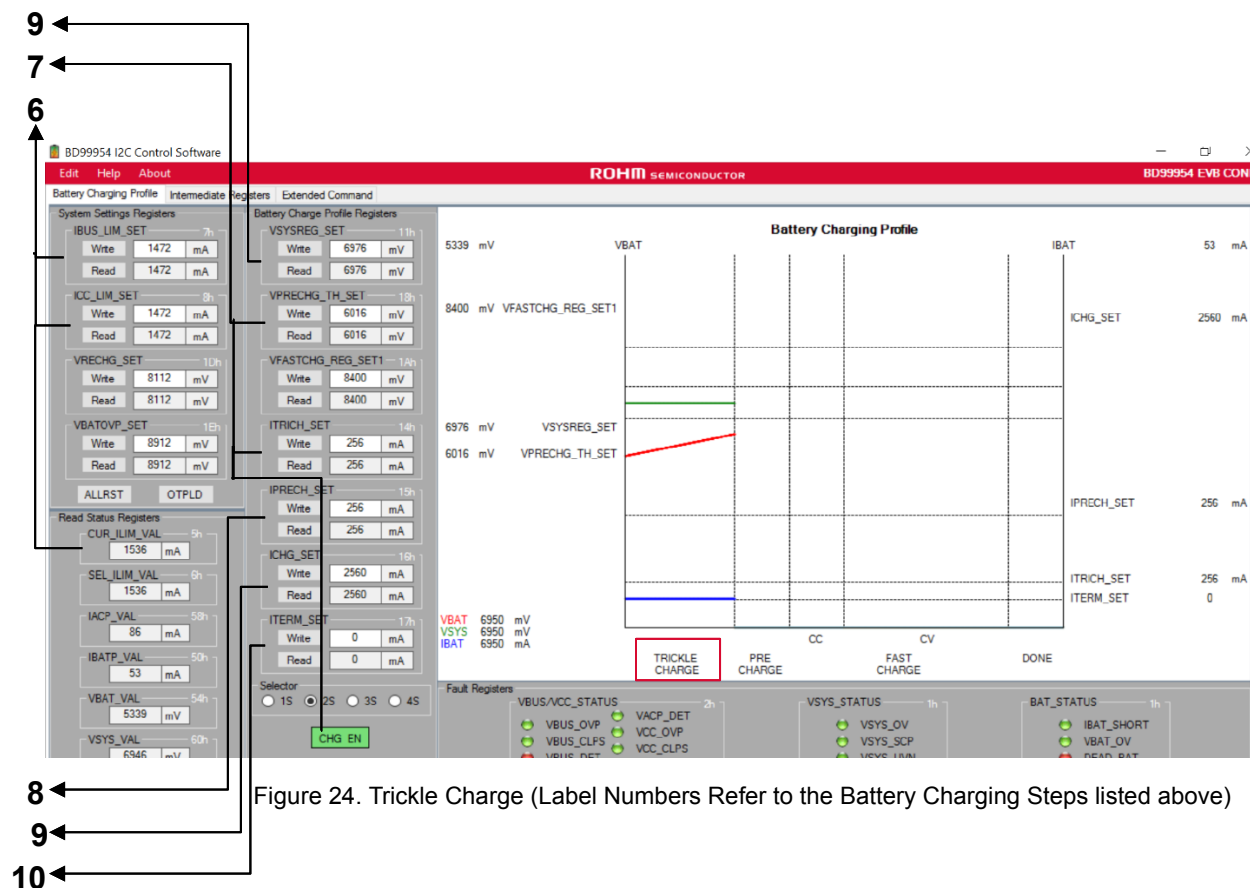

Figure 24. Trickle Charge (Label Numbers Refer to the Battery Charging Steps listed above)
be written to IBUS_LIM_SET(Reg 7h) or ICC_LIM_SET(Reg 8h) depending on the preferred input VBUS or VCC respectively. The input current limit CUR_ILIM_VAL(Reg 5h) will reflect the change. (Refer Figure 24)
7. To trickle charge the battery, connect a battery which is below VPRECHG_TH_SET(Reg 18h) and click on the CHG_EN button on 'Battery Charging Profile'. The battery starts charging with trickle charge current set by ITRICH_SET(Reg 14h) as soon as the CHG_EN button turns green (CHG_EN = 1). The Trickle Charge area of the charging profile in the 'Battery Charging Profile' tab of the GUI should reflect the same. (Refer Figure 24)
8. As the battery gets charged and the battery voltage becomes higher than VPRECHG_TH_SET(Reg 18h), the charging state changes to Pre- Charge with pre charge current set by IPRECH_SET(Reg 15h). The Pre Charge area of the charging profile in the Battery Charging Profile' tab of the GUI should reflect the same. (Refer Figure 24 and 25)
9. Change the VSYSREG_SET(Reg 11h) to the required level at which the battery needs to start fast charging. When the battery voltage is higher than VSYSREG_SET(Reg 11h) the battery starts fast charging with fast charge current set by ICHG_SET(Reg 16h). The Fast Charge(CC) area of the charging profile in the Battery Charging Profile' tab of the GUI should reflect the same. (Refer Figure 24 and 26)
10. When the battery charges up to VFASTCHG_REG_SET1(Reg 18h) which is the max. battery charge level, the charging state changes from Fast Charge CC mode to Fast Charge CV mode and the charge current decays to the termination current set through ITERM_SET(Reg 17h). (Refer Figure 24 and 27)